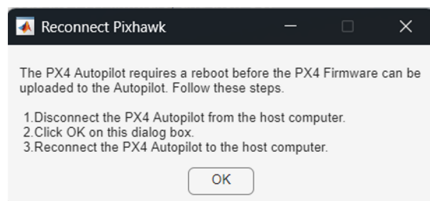

Figure B.15: Screenshot of the Pixhawk re-boot prompt window.
17. Next, a dialogue box will appear as shown in Figure B.15. Unplug the autopilot, click “OK,” and reconnect the autopilot quickly to begin the firmware deployment process.